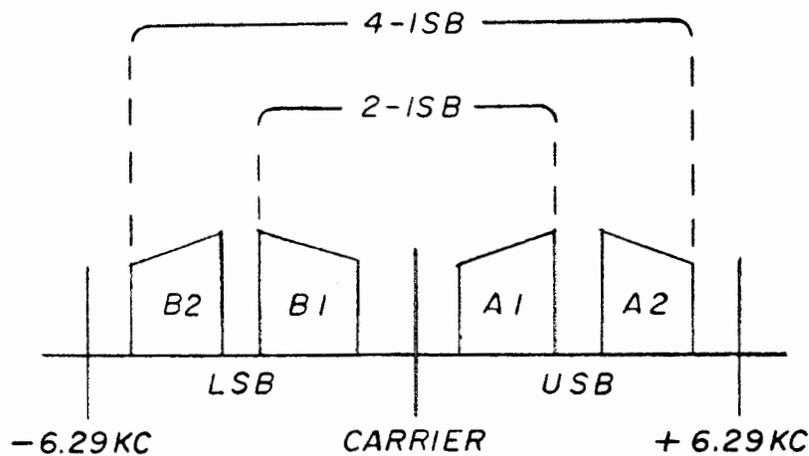

Figure 4-3. AF Channel Distribution
(1) MODULATION AND CARRIER. - Modulation and carrier signals are combined (in the correct ratio for the selected mode of operation) in up-converter A11. The modulation signals are obtained from modulators A1 through A4, and the carrier signal is obtained from 1.75 mc/113.75 mc generator A8. Table 4-3 gives the characteristics of each mode of operation, together with the settings of the front panel CLASS OF EMISSION and SIDE-BAND SELECTOR switches required to select the mode. Figure 4-3 shows the relationship of the four modulation channels. The outboard channels (A2 and B2) are inverted by a reference carrier (from side-carrier generator A9) for compatibility with existing equipment.